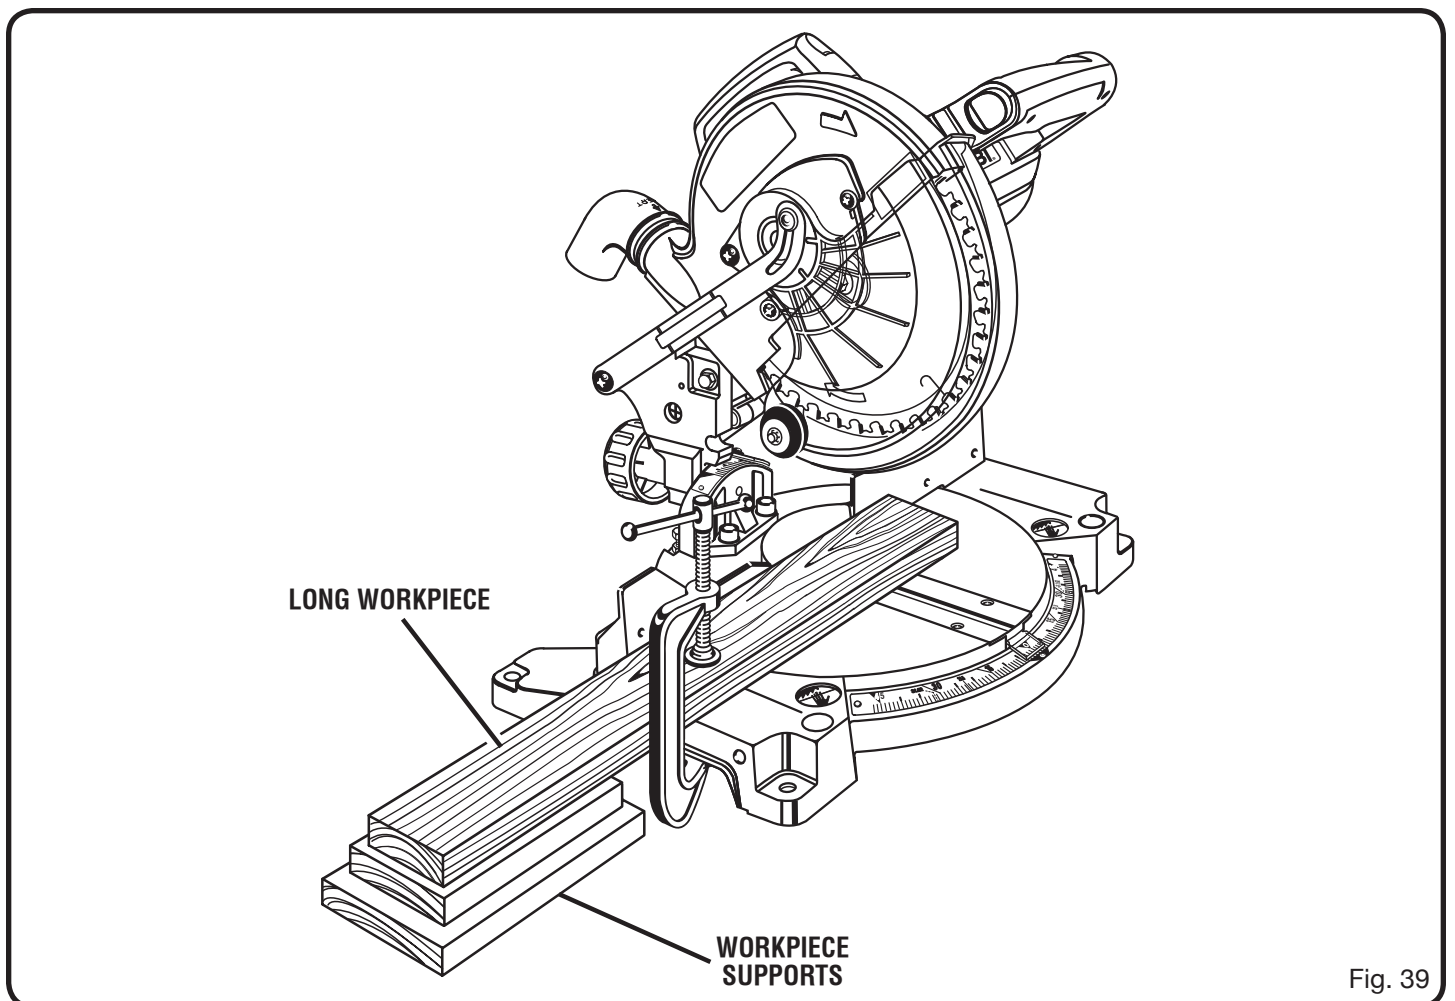

Fig. 39
- When cutting long pieces of lumber or molding, support the opposite end of the stock with a roller stand or with a work surface level with the saw table. See Figure 39.
See Figure 39.